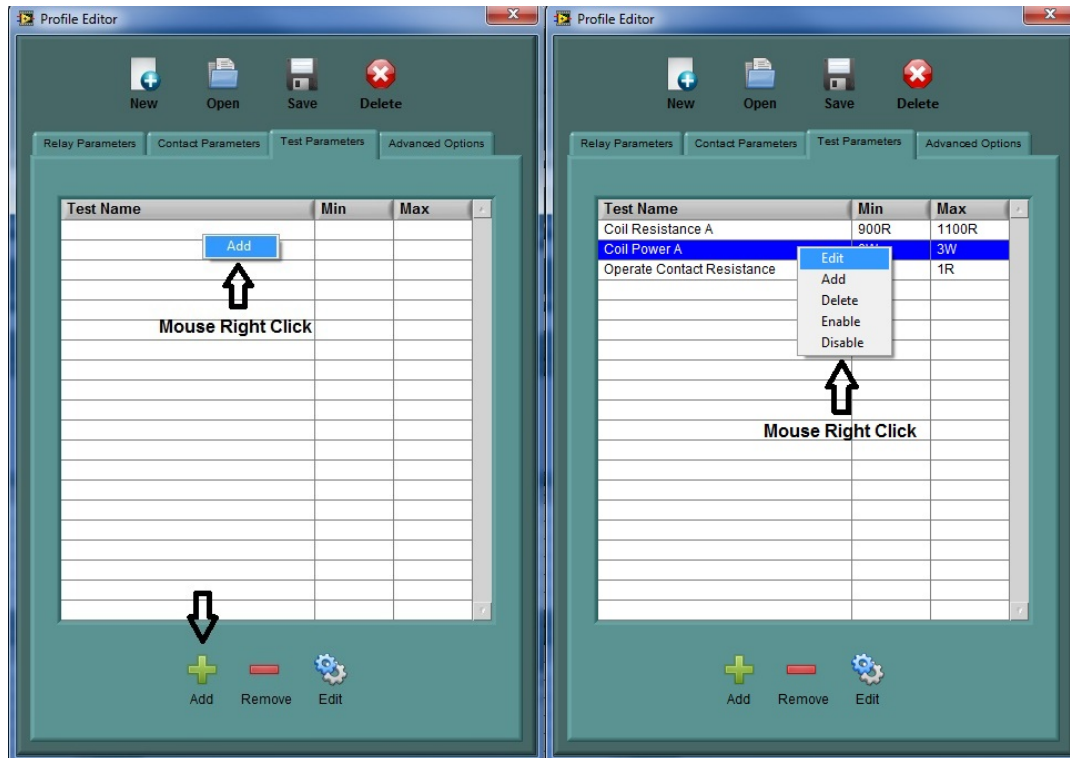

Figure 6 - Add/Remove/Edit Test Parameters
There are two ways to add a new test to the relay profile by simply clicking “ADD” or right click on the table then select “ADD”. Follow the same instruction to remove and edit a test. See Figure 6.
- Enable/Disable – Enable or disable the selected test. When the test is disabled it will not be tested. There are 2 ways to enable or disable a test, right click on the Test Parameters table (see Figure 6) or through this control.